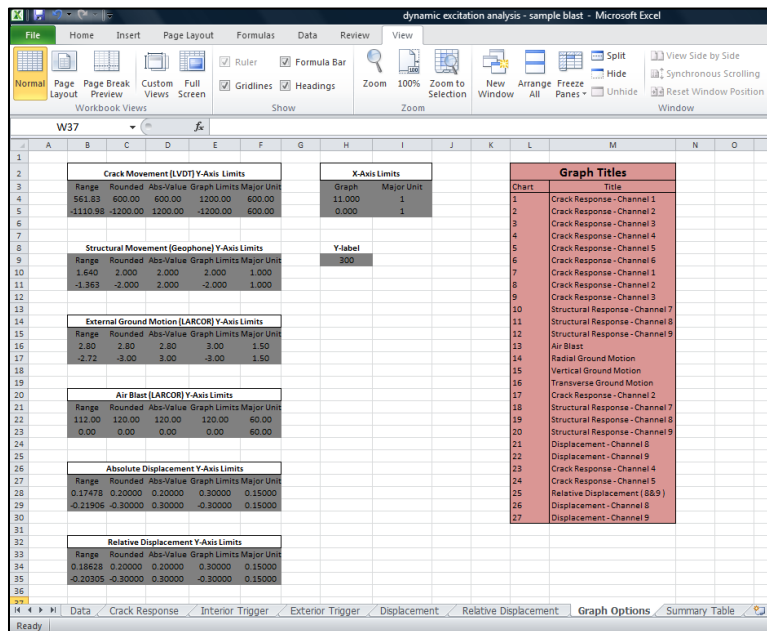

Figure 45: Dynamic Excitation Template Graph Options Annotated by Letter
19. Switch to the **seventh** spreadsheet tab titled **Graph Options** shown in Figure 45.